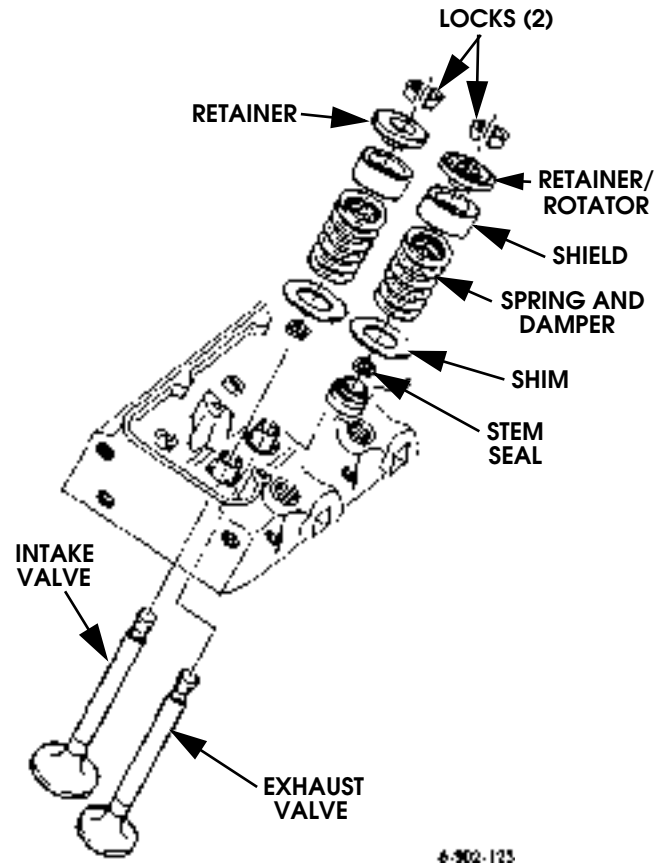

Figure 2-142: Valvetrain Installation Sequence
4. Install combustion prechambers in cylinder heads (Figure 2-142). Chambers should be flush to no more than 0.002 in. (0.05 mm) above head surface.
7. Install valves as follows (Figure 2-142):